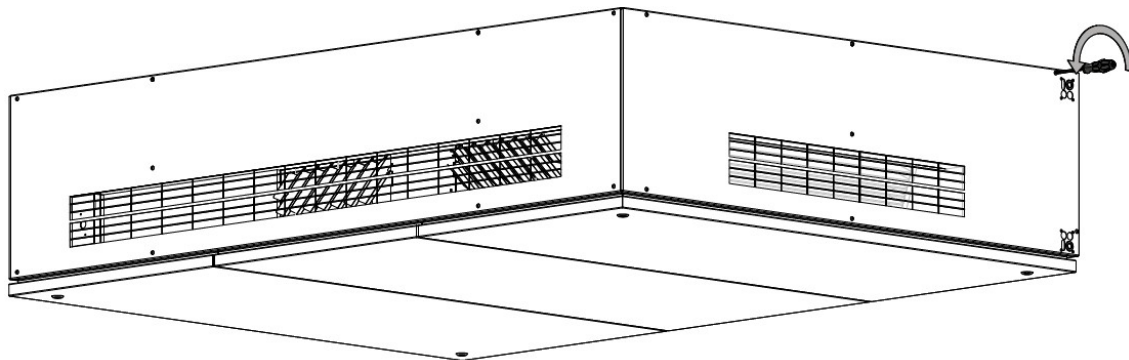

Figure 9: Disassemble the right-hand side cover
2. Disassemble the right-hand side cover, see Figure 9. Carefully place the cover on a protective underlay to prevent scratches to the surface.